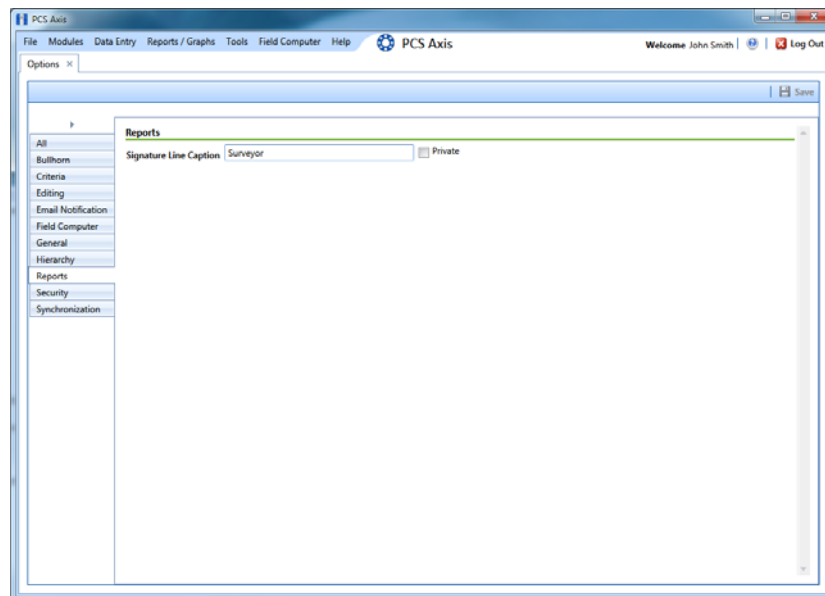

Figure 2-12. Reports
- 2 Click the **Reports** tab to open the *Reports* option page (Figure 2-12, page 40).